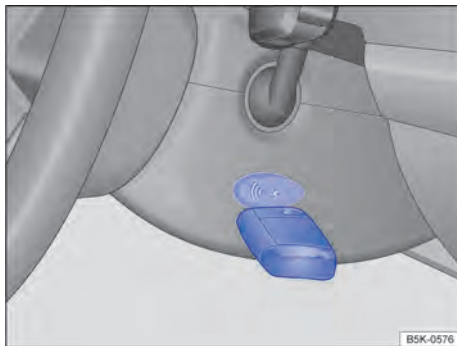

Fig. 89 To the right of the steering column: emergency start function of vehicles with Keyless Access locking and start system.
- Hold the vehicle key after pressing the start button directly to the right of the steering column → Fig. 89.